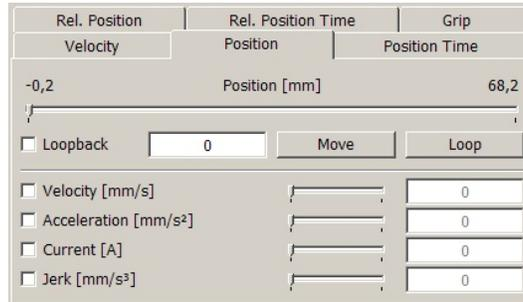

Figure 4.14: Movement commands
Using the buttons in the right section of the window, the main commands can be sent directly to the module. After the Movement button has been clicked, a separate section of the window for the required *parameterization of the movement commands* (fig. 4.14) is shown.
- Movement: *The module window is extended with movement controls* (fig. 4.14) .